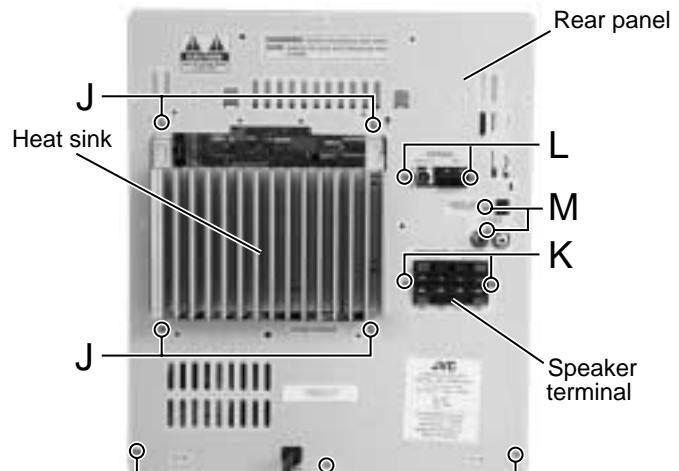

Fig.12
■Removing the tuner board (See Fig.12 and 13)
■Removing the rear panel (See Fig.12)